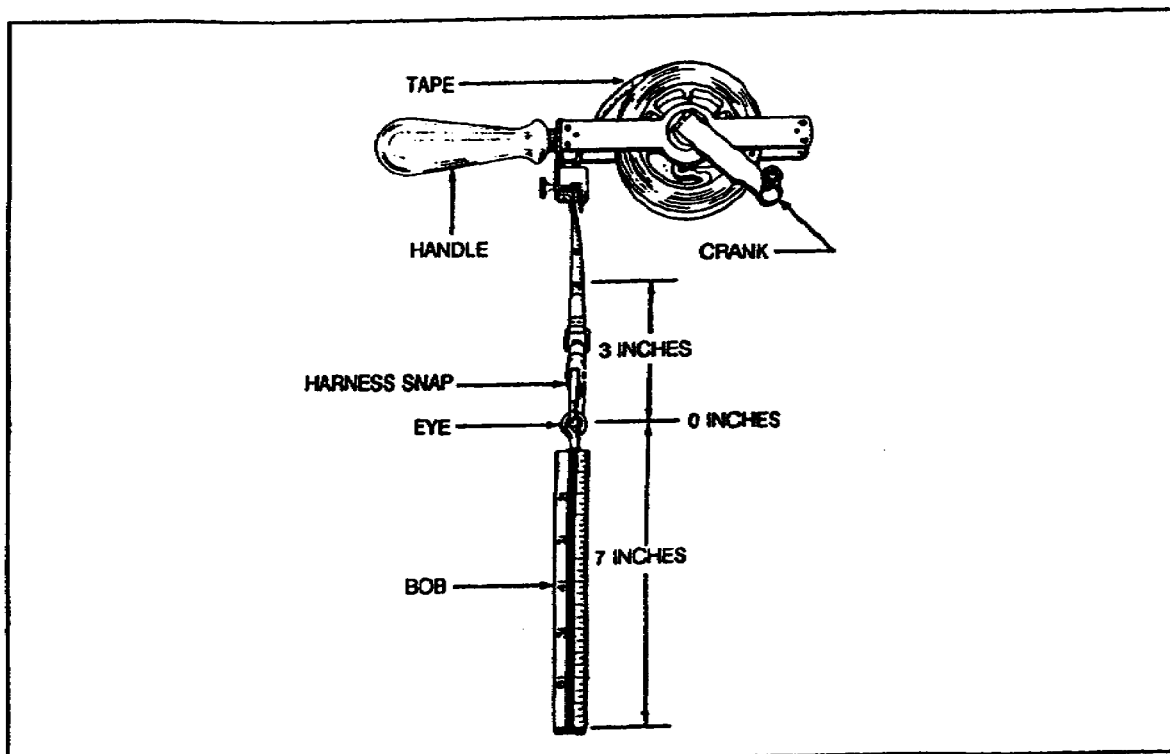

Figure 1-2. Outage tape and bob.
(2) Outage Tape and Bob. The outage tape and bob, shown in Figure 1-2, looks similar to the innage tape except that the readings begin at the 3-inch level on the tape. The zero reference is where the harness snap connects to the bob. The 6-inch long rectangular bob's 1/8-inch graduations start with the 6-inch mark at the bottom. You read it upward to one inch as the last whole number on the top. The outage bob has a flat nose and is made of nonsparking metal. Use the outage tape and bob to determine the distance from the surface of the product to the top of the tank.